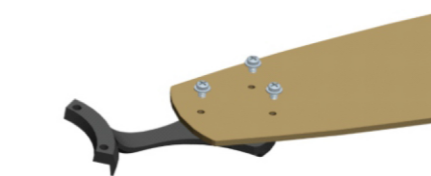

Fig 1.1
- 1.1 Secure each blade to a blade arm using the M5X10 blade screws as shown in Fig 1.1.